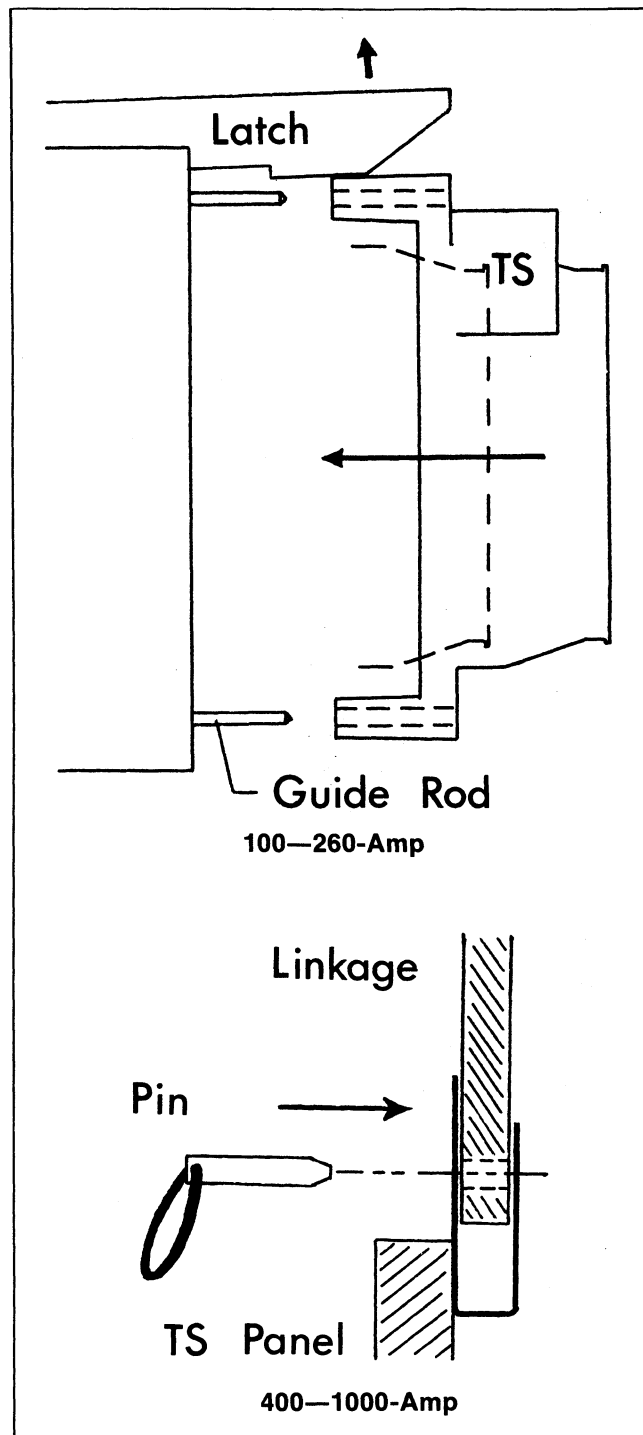

Figure 20. Transfer Switch Installation
2. Install Transfer Switch as follows (Figure 20).